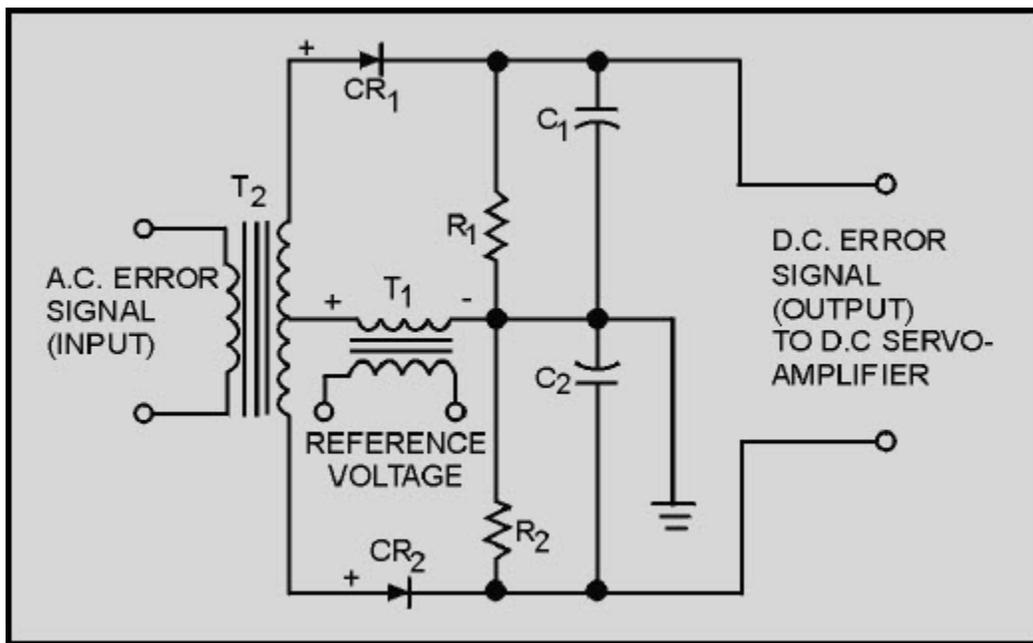

Figure 2-18 Diode demodulator
One example of a servo demodulator is the DIODE DEMODULATOR, sometimes called a phase detector, shown in figure 2-18. This circuit is used in servo systems because it not only converts ac to dc, but it is also able to distinguish the phase of the ac signal by comparing it to a reference voltage. Do not confuse this circuit with other phase detector circuits, such as those used in radar or communications systems. This demodulator (phase detector) distinguishes signals that are either in phase or  $180^\circ$  out of phase. For this reason this circuit is useful in servo systems where the ac output from the error detector (CT) is either in phase with the reference signal or  $180^\circ$  out of phase. Whatever type of error detector is used in the servo system, the reference voltage to the error detector and to the demodulator must be IN PHASE with each other for the demodulator to do its job.
As shown in figure 2-18, the anodes of the two diodes are supplied with the same reference voltage.